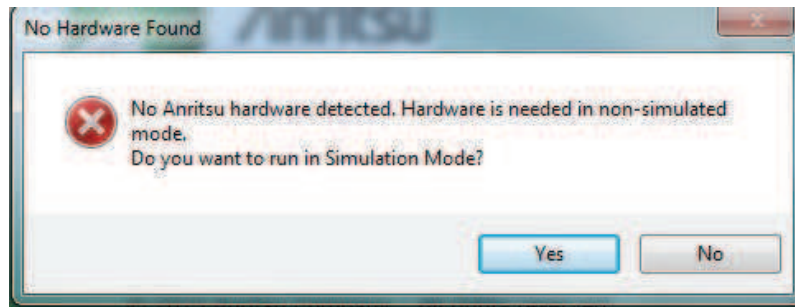

Figure 2-4. No Hardware Prompt
1. Plug in the MS46121A VNA/s into the computer that will control them via individual USB ports or an externally powered USB hub. Launching the ShockLine software without plugging in the VNAs first will result in the software asking the user if they want to run in simulation mode. See Figure 2-4.